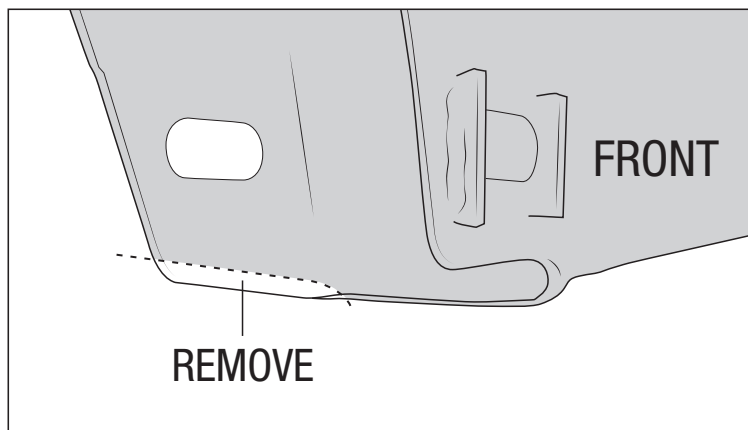

Figure 5
- D. Inside of front LCA bracket to remove radius (fig. 5).